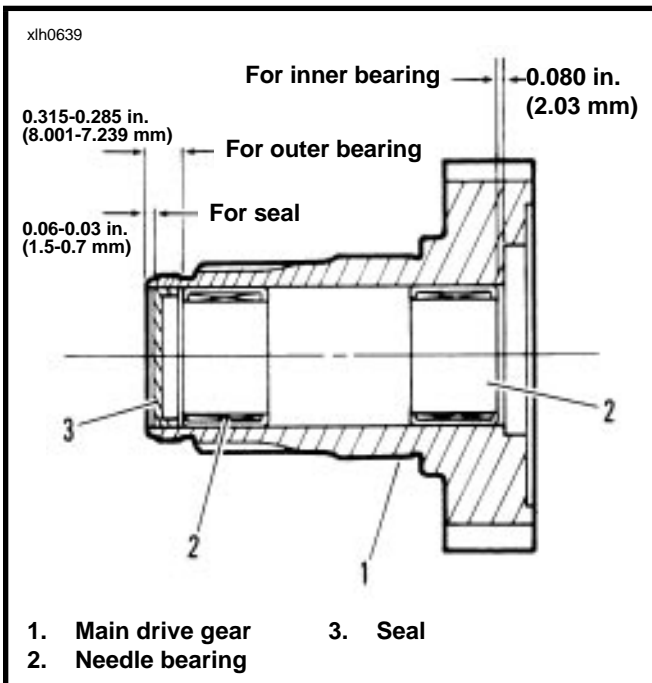
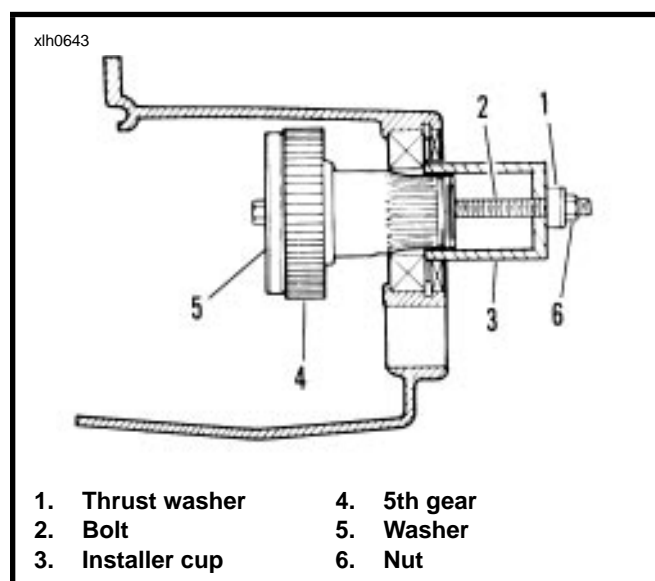

Figure 6-35. Main Drive Gear Assembly
Figure 6-39. Main Drive Gear Installation
2. See Figure 6-35. From inside case tap out seal (3) at end of mainshaft 5th gear (1). Discard seal (3).
2. Use MAIN DRIVE GEAR REMOVER AND INSTALLER TOOL. See Figure 6-39. Take bolt (2) and place washer (5) followed by main drive gear (4) over end of bolt. From inside of case insert bolt and main drive gear through inner race of ball bearing.
3. Insert threaded end of bolt (2) through installer cup (3) and thrust washer (1). Thread nut (6) onto end of bolt (2). Tighten nut (6) until shoulder on gear (4) bottoms against inner race of bearing.
4. See Figure 6-35. Tap in **new** seal (3) at threaded end of 5th gear.